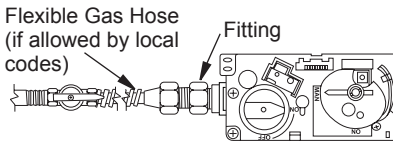

Figure 10 - Attaching Flexible Gas Hose to Regulator
1. Apply pipe joint sealant lightly to male threads of gas fitting (not provided). Connect approved flex ble gas hose to inlet side of gas control (see Figure 10). **IMPORTANT:** Hold gas fitting with wrench when connecting flex ble gas hose.